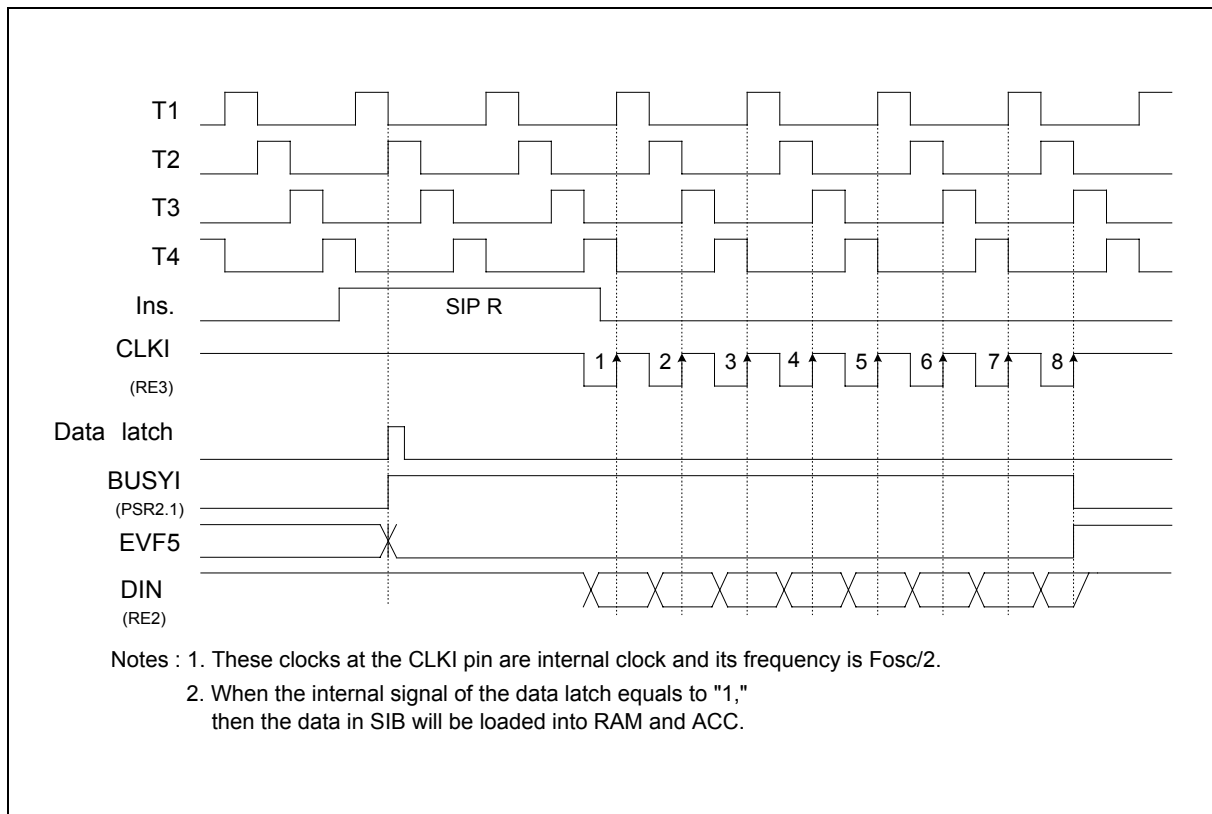

Figure 11. Timing of the Serial Input Function (SIP R)
- (1) When the SIP R instruction is executed, the data will be loaded from the serial input buffer to the ACC and RAM first, and bit 1 of port status register 2 will automatically be set to "1" (BUSYI = 1). Then the CLKI pin will send out 8 clocks and the data from the DIN pin will be loaded to SIB at the rising edge of the CLKI pin. After the 8 clocks have been sent, BUSYI will be reset to "0" and EVF.5 will be set to "1." At this time, if IEF.5 has been set (IEF.5 = 1), an interrupt is executed; if HEF.5 has been set (HEF.5 = 1), the hold state is terminated. Users can check the status of PSR2.1 (BUSYI) to know whether the serial input process is completed or not. If a serial input process is not completed, and the SIP R instruction is executed again, the data will be lost. The timing is shown in Figure 11.